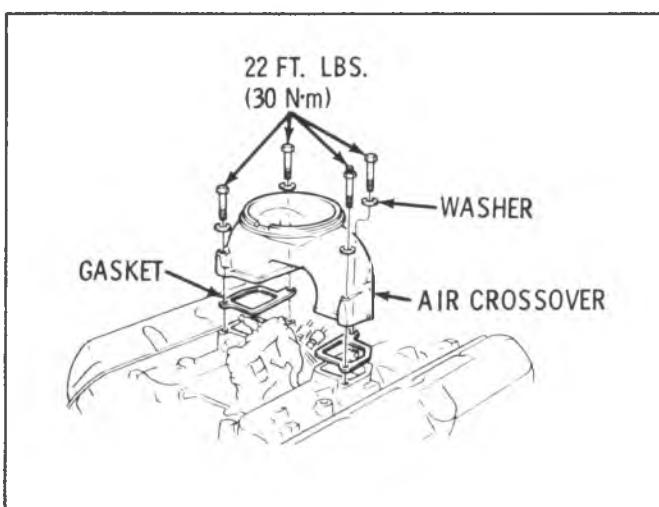

Fig. 6A6-18—Air Crossover
- 3. Remove screened covers J-26996-2 from intake manifold and install air crossover. (Fig. 6A6-18).
INJECTION PUMP FUEL LINES (Fig. 6A6-10)